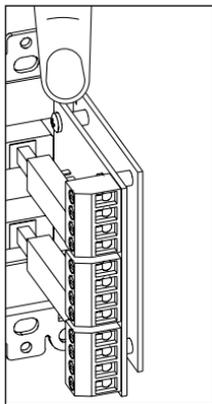

Figure 1
2. Holding the AB-2D as shown in **(Figure 1)**, locate the two plastic mounting tabs at the top rear of the Decora insert. Using two fingers, simultaneously press both tabs down (towards the center of the insert) and forward (away from